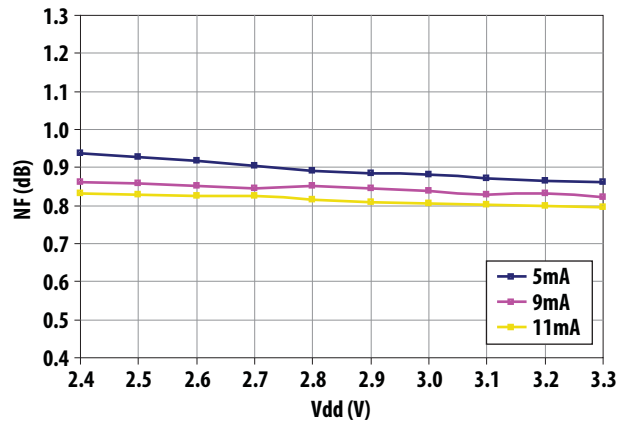

Figure 6. NF Vs Vdd Vs Idd
**Table 3. Typical performance at low operating voltages with R2 (see Figures 6 and 7) set to 0 ohms**
8. Measurements at 1.575GHz obtained using demo board described in Figures 6 and 7
- The demoboard of Figure 6 is Rogers® RO4350 with typical  $Dk = 3.48$  (@10GHz).
The S- and Noise Parameters are measured using the PCB described in Figures 6 and 7. The PCB material is 10 mils Rogers® RO4350. Figure 23 shows the input and output reference planes. The circuit values, with the exception of L3, are as indicated in Figure 6.